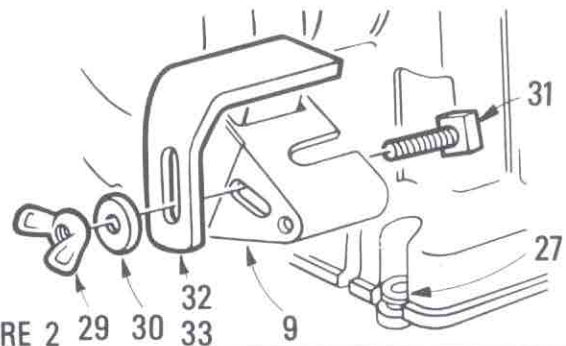

FIGURE 2
4. Attach tool rests (32 & 33) to bottom front of wheel guards (9) inserting bolts — $\frac{5}{16}$ -18 x $\frac{3}{4}$ (31) from inner side of guards as shown. Add washers (30) and wing nuts (29). See figure 2.
5. Insert 4 base bushings (27) in slots provided at each corner of base as shown in illustration. *Thick section of bushing extends below grinder base.* See figure 2.